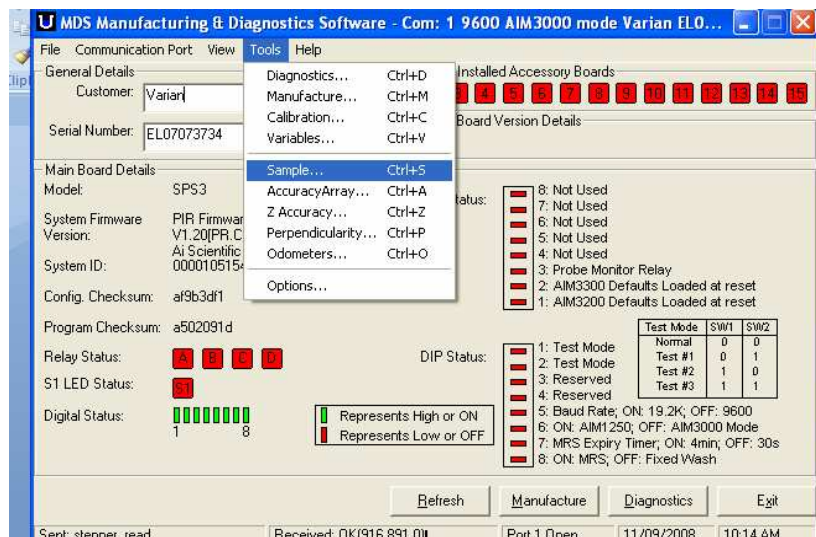
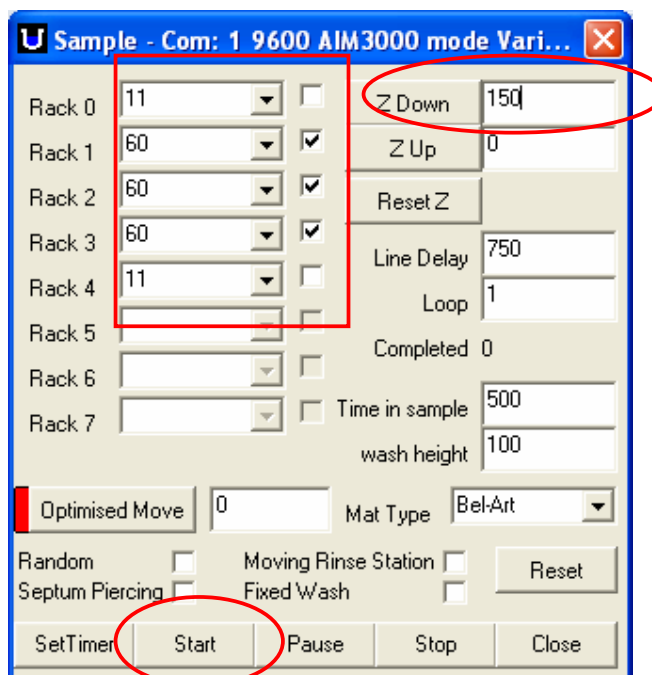

Figure 17: Main Page of the software
Figure 18: Fraction Collector Rack Configuration
1. Select the *Tools* option from the pull down menu and click on *Sample* (Figure 17). This will open the window in Figure 18 where you can choose which racks the Fraction Collector has and the rack size.
3. Select a Z down (Figure 18) value so that you can easily see if the probe is going into the sample collection tube properly. I usually pick a value of about 150. Once you are happy with the setup, click on the Start button and the probe will move through all the positions for the number of racks you have selected.